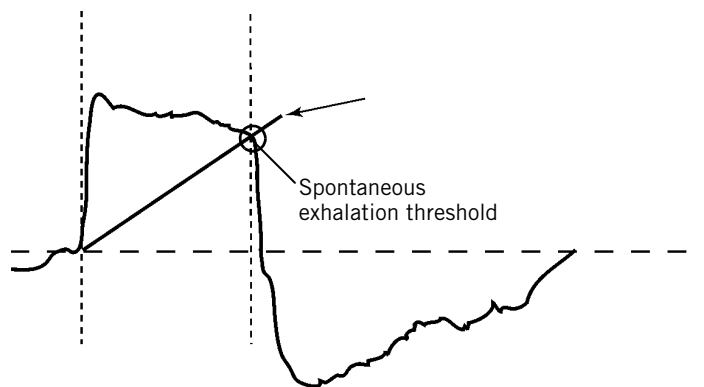

Figure 4-3: Spontaneous exhalation threshold (SET)
**SET method of cycling.** Patient flow reaches the spontaneous exhalation threshold (SET); see Figure 4-3. The SET represents the intersection of the flow waveform and a line of a given slope. SET is updated each breath.